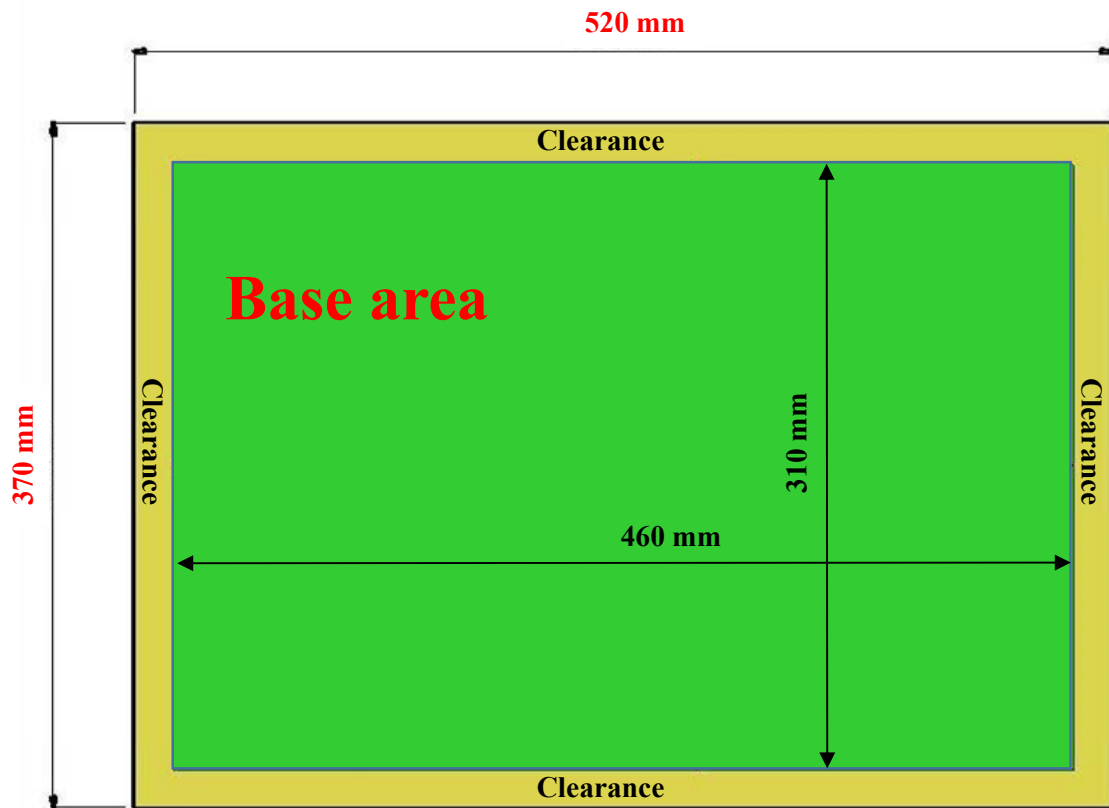

Figure 1: Top view of the MDF base board
- The model building must be constructed on a wooden board with a dimension of 370 mm (W) × 520 mm (L) × 6 mm (H), while the base area of the model building is limited to 310 mm (W) × 460 mm (L). IDEERS will provide a medium-density fiberboard (MDF) as the base wooden board. The baseboard should have 30-mm clearance left at four edges so that the model building can be fixed on the shaking table (Figure 1 and 2). The model building can be in any shapes, but the fabrication area of the building is restricted to follow the IDEERS requirement.